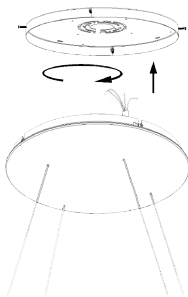

Fig.1
- Step 2. Rotate the canopy to release the bottom bracket from side. See Fig.1